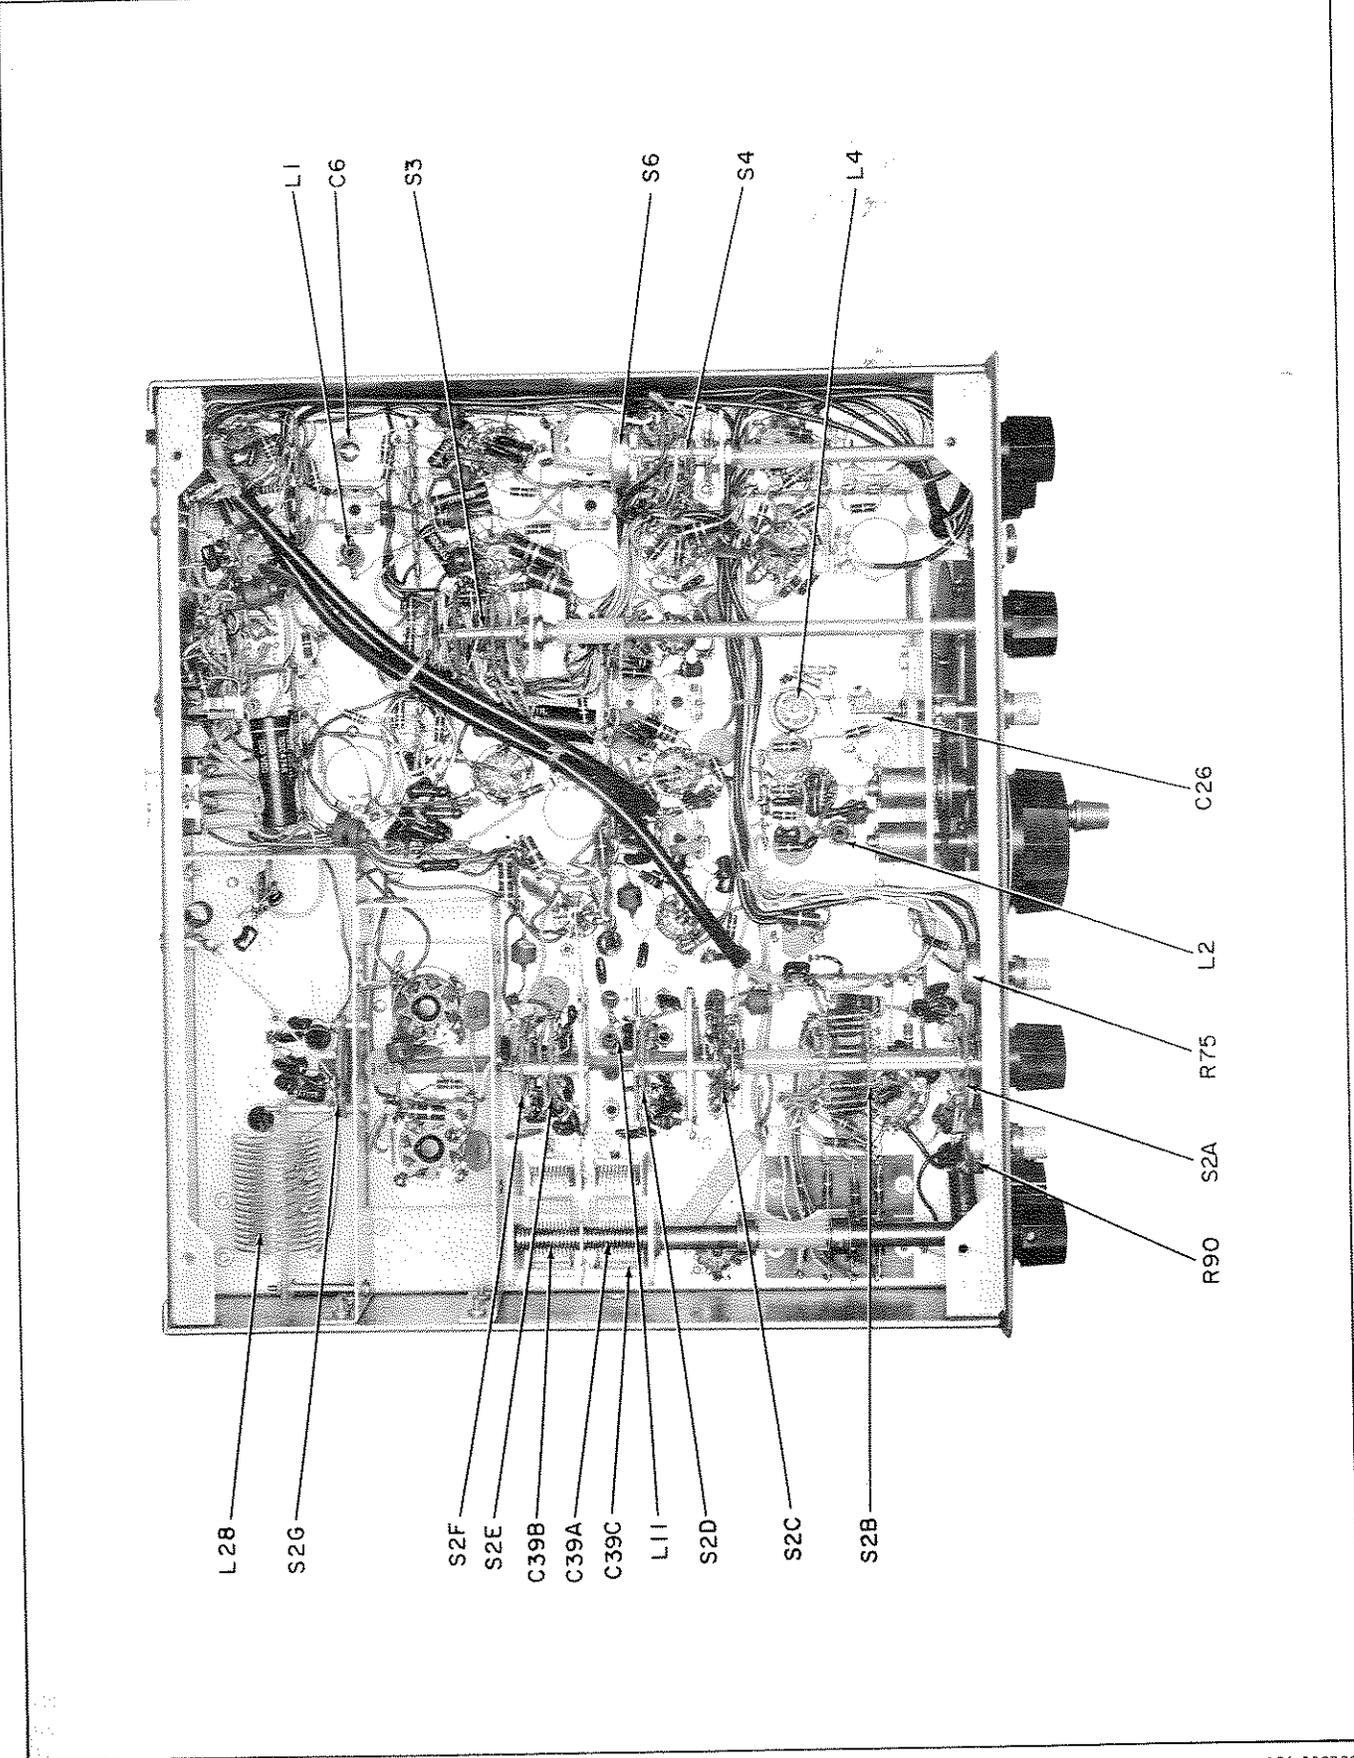

Figure 15. Bottom Chassis View, Showing Components.
3. 10-Meter Alignment. - Tune the Signal Generator to 28.0 MC. Set the FINAL TUNING control to the low end of the 10-meter segment (approximately 8 on the inner scale) and the DRIVER TUNING control also to the low end of the 10-meter segment (approximately 8 on the inner scale). Increase the signal generator output level until a small indication is noted on the HT-44 RF output meter. Tune the FINAL TUNING control for maximum output indication. Adjust the cores of coils L5 and L15 (see figure 14 for location) for maximum output, reducing the signal generator output level as required to keep the meter reading at half-scale or less. Set the signal generator to 29.7 MC. Set the FINAL TUNING control to the high end of the 10-meter segment (approximately 9-1/2 on the inner scale) and set the DRIVER TUNING control to the high end of the 10-meter segment (approximately 9-1/2 on the inner scale). Adjust trimmer capacitor (C39C) located on the side of C39A (see figure 15 ) for maximum output while slightly rocking the DRIVER TUNING control. Return the signal generator to 28.0 MC and repeat the above alignment until tracking is accomplished. (NOTE: Trimmer C39C should not be readjusted on the other bands.)
7. 6.5-MC Trap Adjustment. - While on the 40-meter band, set the signal generator to 7.0 MC and adjust the FINAL TUNING and DRIVER TUNING controls for maximum output. Without changing the FINAL TUNING or DRIVER TUNING, reset the signal generator to 6.5 MC and increase the signal generator output level until a small indication is noted on the RF output meter. Adjust the 6.5-MC trap core, L11 (see figure 15 for location) for minimum output, increasing the signal generator output as required. A slight readjustment of L8 may be required after this adjustment.
If the dial error progressively increases in the same direction with the high-frequency end running out more than 3000 CPS, at this end, both L4 and C29 should be adjusted. Proceed as follows: Set the TUNING dial to 4.0 MC (red 1000) and the Receiver to 4.0 MC. Adjust the slug of L4 (see figure 15 for location) to zero beat. Set the TUNING dial to 3.5 MC (red 500), the receiver to 3.5 MC, and adjust C29 for zero beat. Repeat the adjustments at 4.0 MC and 3.5 MC until both points are on frequency.
Remove V15 (12AT7) from its socket to disable the heterodyne oscillator signal. Connect the probe of the RF voltmeter to the grid of the Second Mixer (pin 2 of V8). Set the FUNCTION switch to CW and the OPERATION switch to MOX. Set the BAND SELECTOR to any 10-meter segment. Set the TUNING control dial to 250 and advance the RF LEVEL control until a small indication is noted on the RF voltmeter. Adjust the core of the VFO output coil (L2, See figure 15) for maximum reading. Set the TUNING control to 450 on the dial. Advance the RF LEVEL control until approximately 0.5 volt RMS is indicated on the RF voltmeter (HP 410 B or equal). Adjust top and bottom cores of IF transformers T3 and T4 for maximum voltmeter indication, keeping the level below 1 volt to prevent overload and false settings. After the transformers have been adjusted as described, increase the RF LEVEL control until 1 volt is indicated on the voltmeter. Tune the VFO (TUNING) across its range (0 to 500) while watching the voltmeter. The voltmeter should read between 0.8 and 1.0 volt over the entire range of the dial (0 to 500). After completion of this alignment, be certain to replace V15 (12AT7) in its socket.